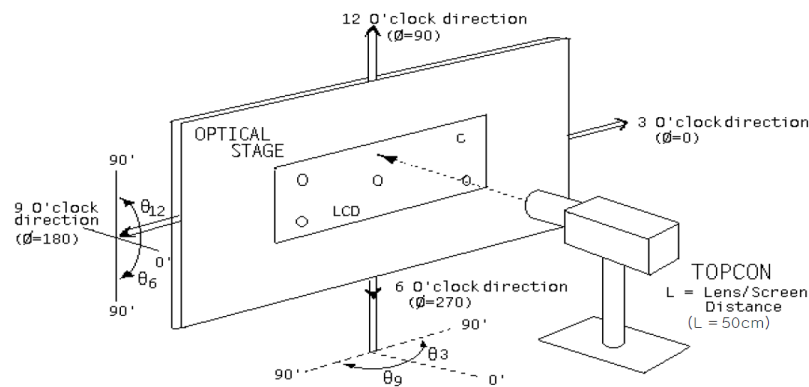

Figure 16: Measurement Set Up
2. Surface luminance is the center point across the LCD surface 50cm from the surface with all pixels displaying white. This measurement shall be taken at the locations shown in FIG. 16.